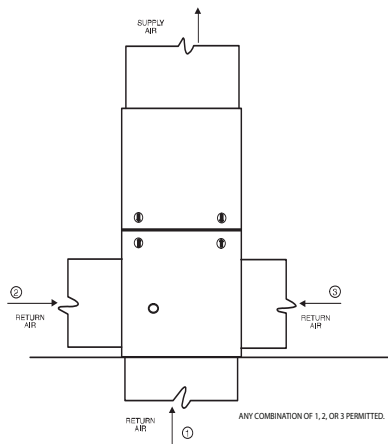
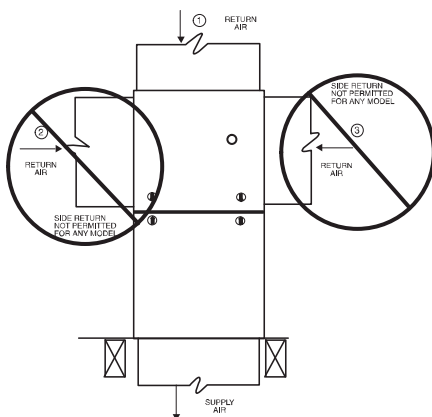

Fig. 21 – Upflow Return Air Configurations and Restrictions
Fig. 22 – Downflow Return Air Configurations and Restrictions
The return-air duct must be connected to bottom, sides (left or right), or a combination of bottom and side(s) of main furnace casing. Bypass humidifier may be attached into unused return air side of the furnace casing. See Fig. 21, Fig. 22, and Fig. 23.
**NOTE:** Side return-air openings can be used in UPFLOW and some HORIZONTAL configurations. Do not use side return-air openings in DOWNFLOW configuration. See Fig. 21, Fig. 22, and Fig. 23.
The return-air duct must be connected to return-air opening (bottom inlet). DO NOT cut into casing sides (left or right). Bypass humidifier connections should be made at ductwork or coil casing sides exterior to furnace. See Fig. 22.
For upflow applications, the filter can be installed on either side of the furnace, the bottom of the furnace or any combination of side and bottom of the furnace. (See Fig. 21)
For downflow applications, the filter rack (or field supplied accessory air cleaner) must only be connected to the bottom opening on the furnace (See Fig. 22)